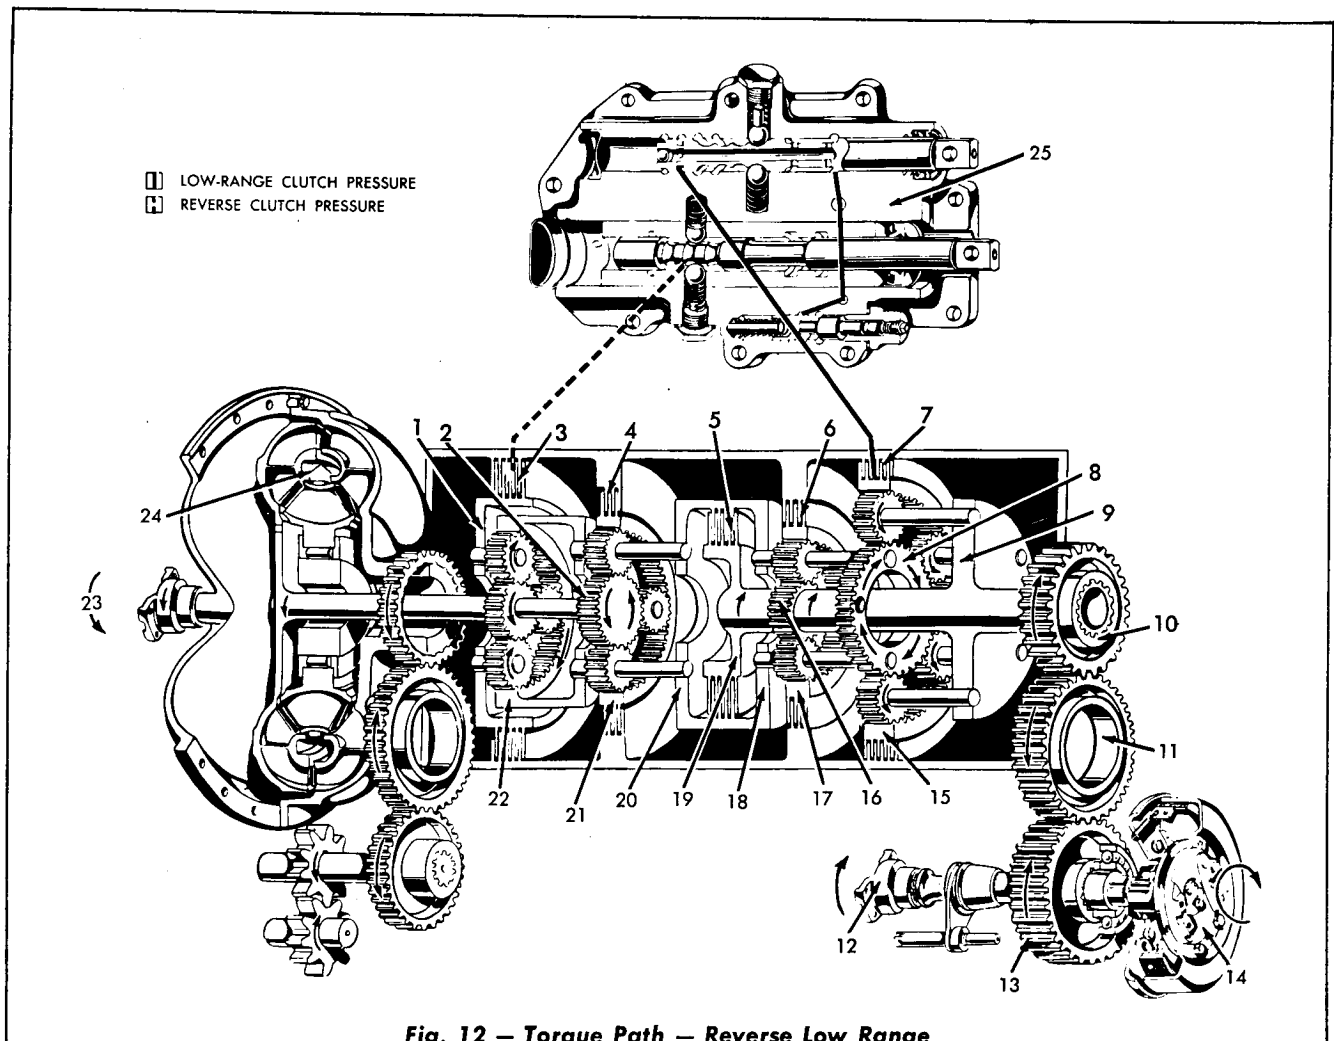

Fig. 12 — Torque Path — Reverse Low Range
6. Low-Reverse Range Torque Path (Fig. 12)